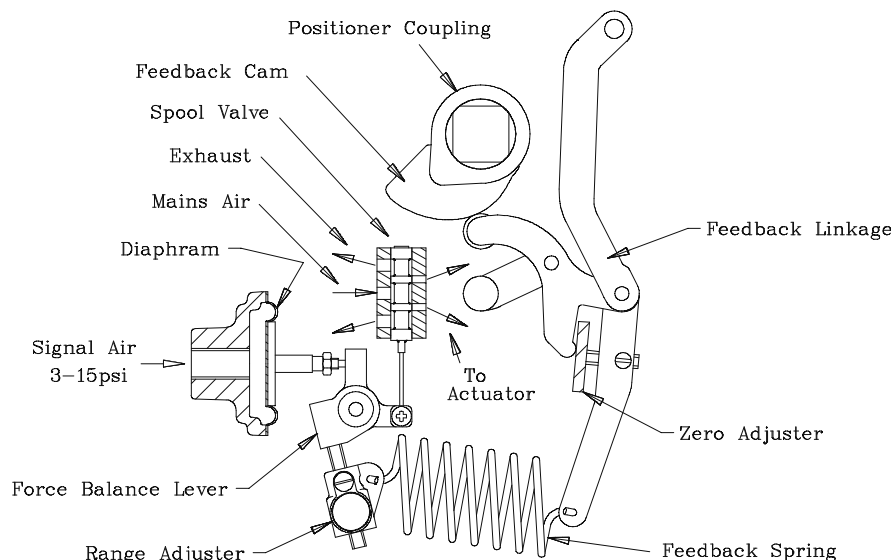

FIGURE 4. PRINCIPAL OF OPERATION.
4.2 Zero and Range Adjustment (refer to Figure 4).
b.) adjustment of the built in flow restrictors (shown in Figure 4) is achieved using a screwdriver. There are two restrictors, one for each direction of travel. Clockwise rotation, this will reduce the actuator speed. 'AP' and 'MP' size units with 1/8 or 1/4 ports are controlled in this way but 'HP' size units having 3/8 ports are fitted with external silencer/restrictors which are adjusted using an allen key fitted down the centre of the adjuster.